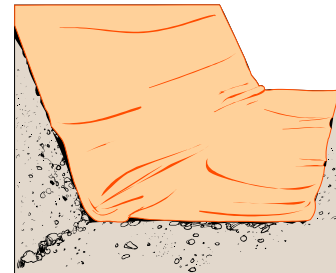

Figure 1 Geotextile Placement
- Install the specified geotextile separation and drainage layer. See Figure 1.